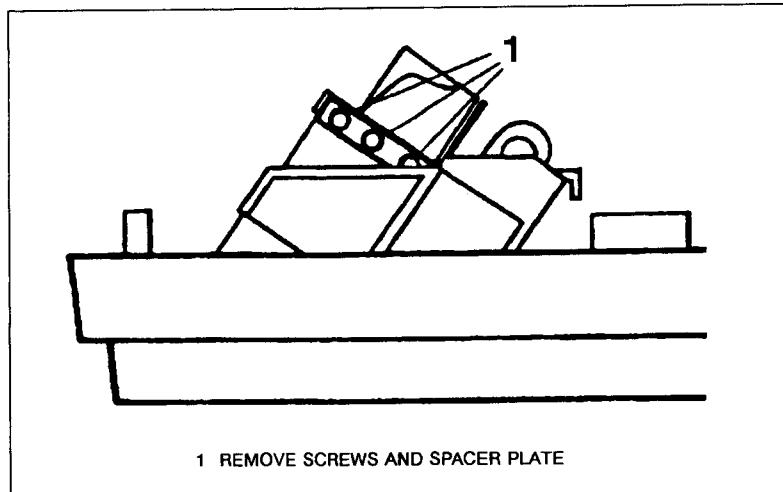

Figure 6-10. Print Mechanism (Right End View)
d. Remove the three pozidrive screws or three 3mm socketed cap screws and the flat spacer plate from the right-end of the print bar (see Figure 6-10).